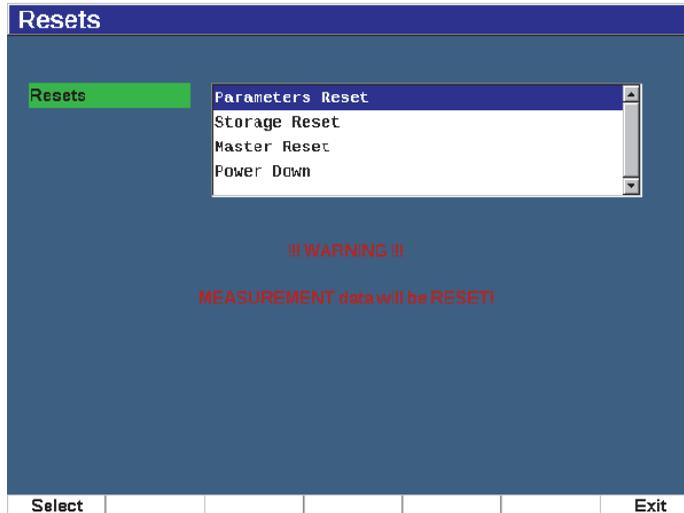

Figure 3-21 The Resets page
1. Choose **Manage > Reset** to display the **Resets** page (see Figure 3-21 on page 71).